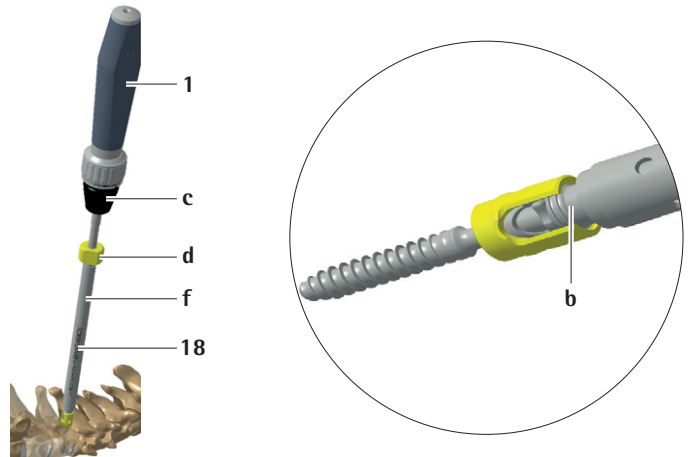

Fig. 20
- ▶ Make sure that the screw is firmly seated on the screwdriver and the polyaxiality is blocked for insertion, see Fig. 20.